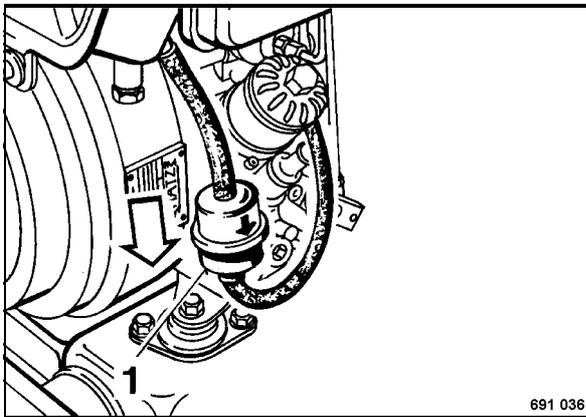

Fig. 70
- Unscrew the hose clamp 1 (Fig. 70).
- Pull the fuel filter (2) out of the upper and lower hoses.